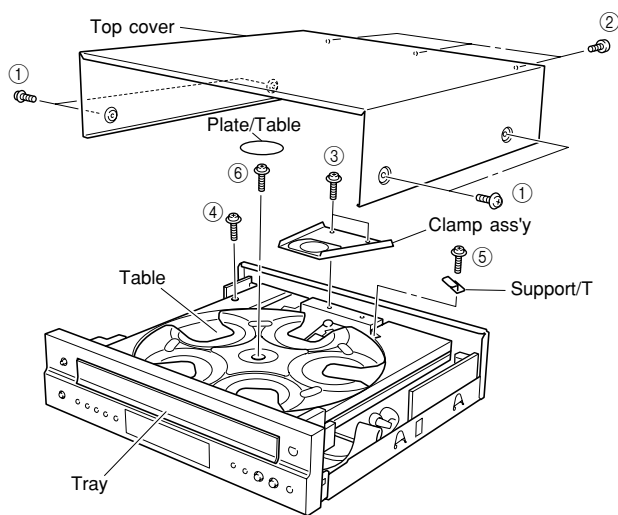

Fig. 1
- Remove 4 screws (①) and 3 screws (②). (Fig. 1)
- Remove 2 screws (③). (Fig. 1)
- Remove clamp ass'y. (Fig. 1)
- Remove 1 screw (④). (Fig. 1)
- Remove 1 screw (⑤) and then remove the support/T. (Fig. 1)
- Remove the plate/table. (Fig. 1)
- Remove 1 screw (⑥) and then take off the table. (Fig. 1)